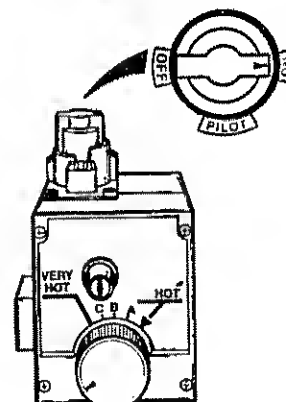

Figure 15
10. Turn gas control knob counter-clockwise (↺) to the full "ON" position. **WARNING Do not use gas control knob to regulate gas flow.** (Figure 15, page 21)